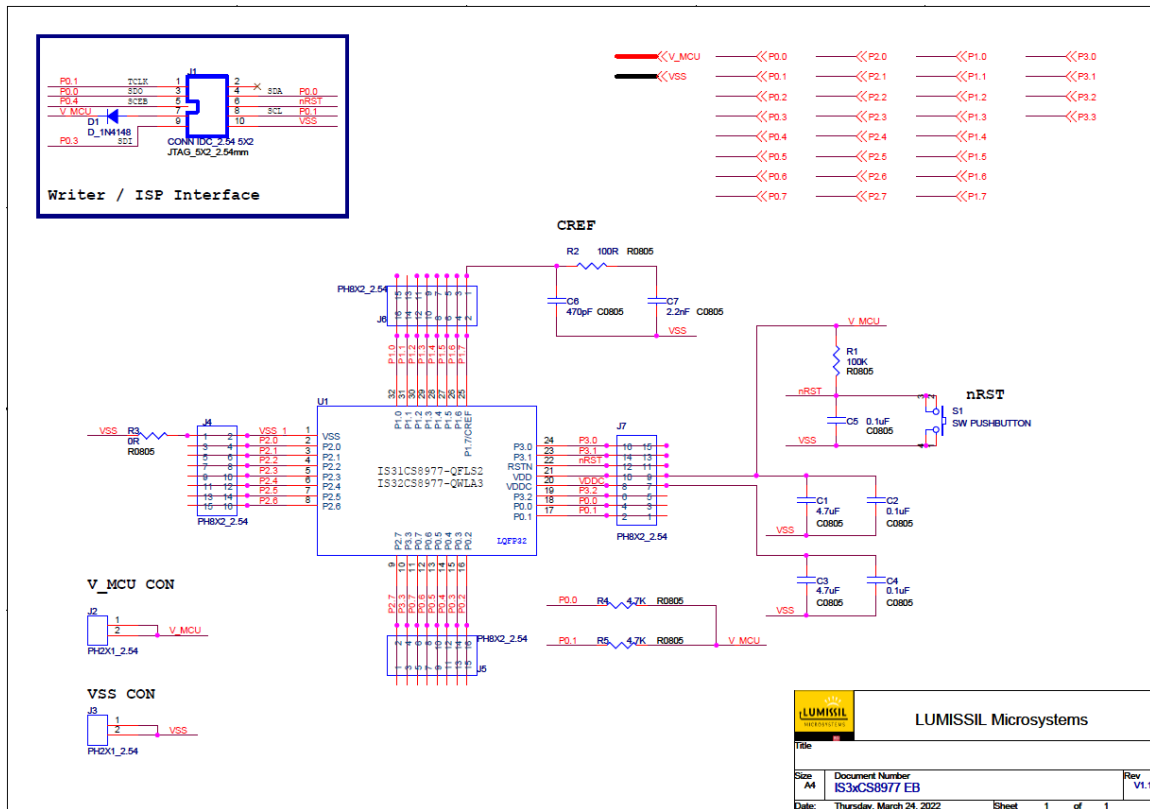

Figure 12: IS3XCS8977 EB Schematics
Please refer Figure 4 and Figure 5 for IS3XCS8977 EB top and bottom view. IS3XCS8977 EB schematics and layout can be found from Figure 12~16. Bill of Materials can be found in table 2.
**For Bill of Materials, please refer above Figure 12: IS3XCS8977 EB Schematics.**